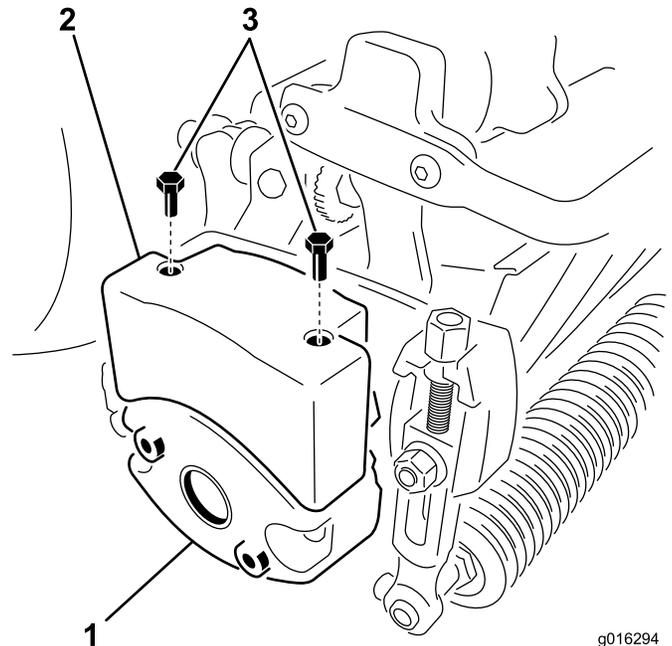

Figure 10
4. Remove the 2 bolts securing the weight to the side of the cutting unit (Figure 10).
6. Install an upper weight to the cutting unit weight using 2 hex socket-head screws (Figure 10).